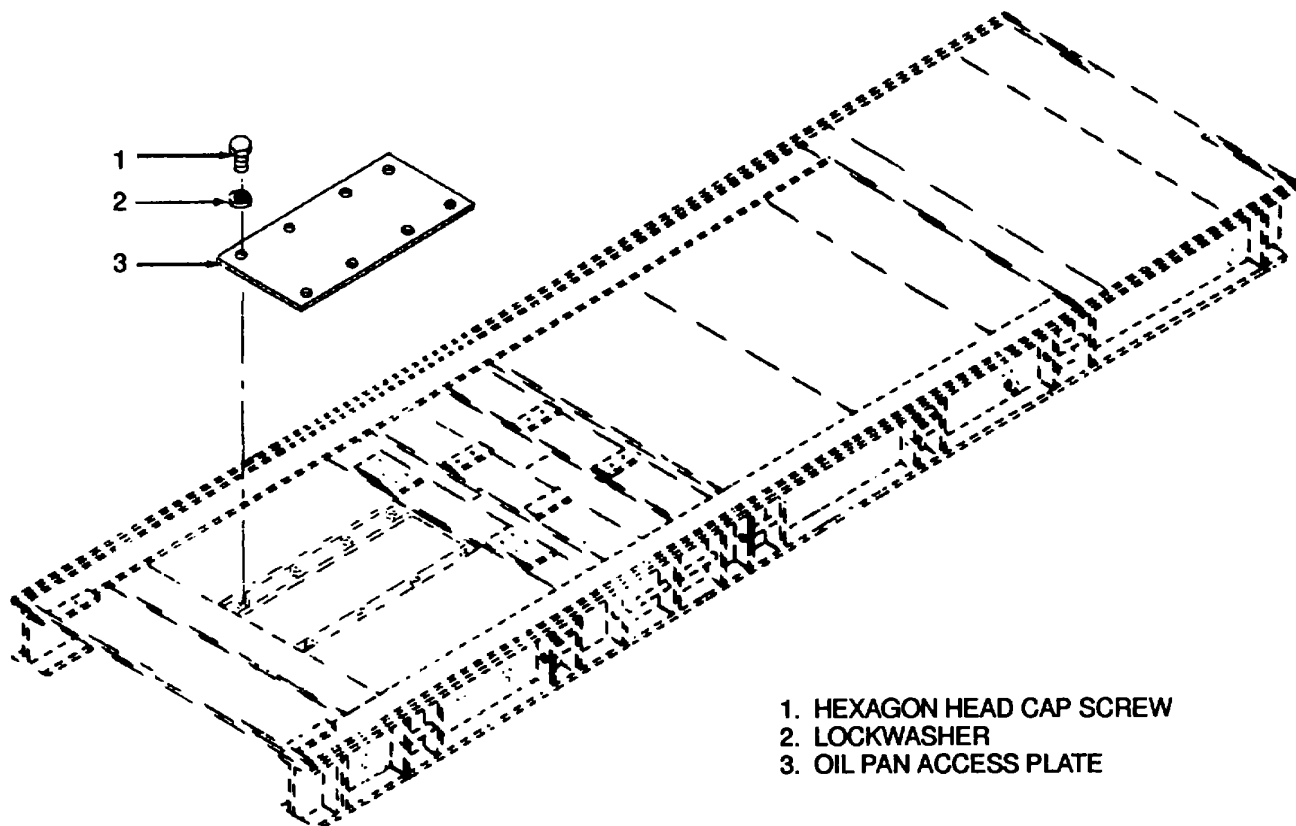

Figure 8-3. Removal and Installation of Oil Pan Access Plate
8-9. OIL PUMP REMOVAL. See Figure 8-3 and Figure 8-4.
- b. See Figure 8-3 and proceed as follows to remove oil pan access plate and increase clearance beneath engine oil pan.